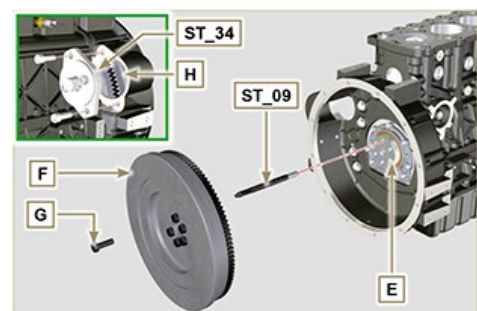

Fig 9.29
1. Screw the special tool **ST_09** on the crankshaft **E** instead of the screws **G** positioned higherup (**Fig. 9.29**).
4. Mount tool **ST_34** in the seat of starter motor **H** (Fig. 9.29) and fix it with two motor fixing screws.